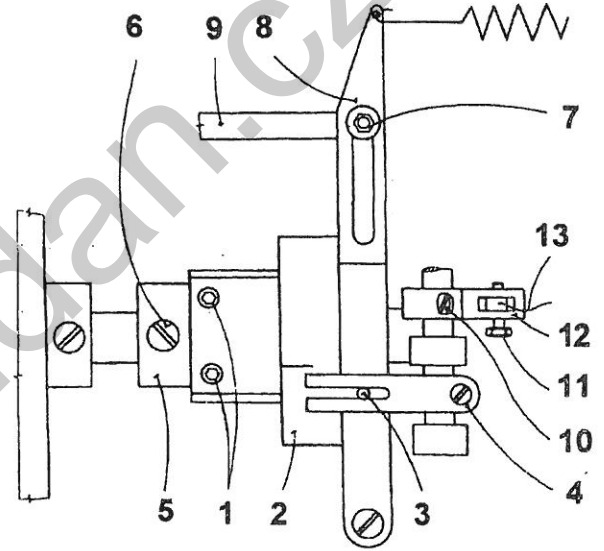

Fig. 15
### 23. To time the trimmer actuating cam (Fig. 15)
### 25. To adjust the stroke of the drawing hook (Fig. 15)
**27. To adjust the loosening of the upper thread tensioner (Fig. 15)**